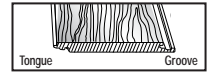

Figure 5
3. Align the next piece by slightly angling it up and against the end first board, interlocking the tongue and groove by pushing forward then down. (Figures 5, 6) Some slight adjustment of the board may be necessary to assure a tight fit.